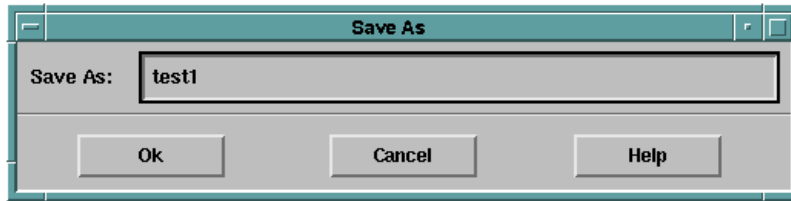

Figure 8.4.2.4-1. Save As Constraint Dialog Box
1. Select **Save As...** from the **File** menu on the constraint definer window. The **Save constraint As** dialog box opens (see Figure 8.4.2.4-1).